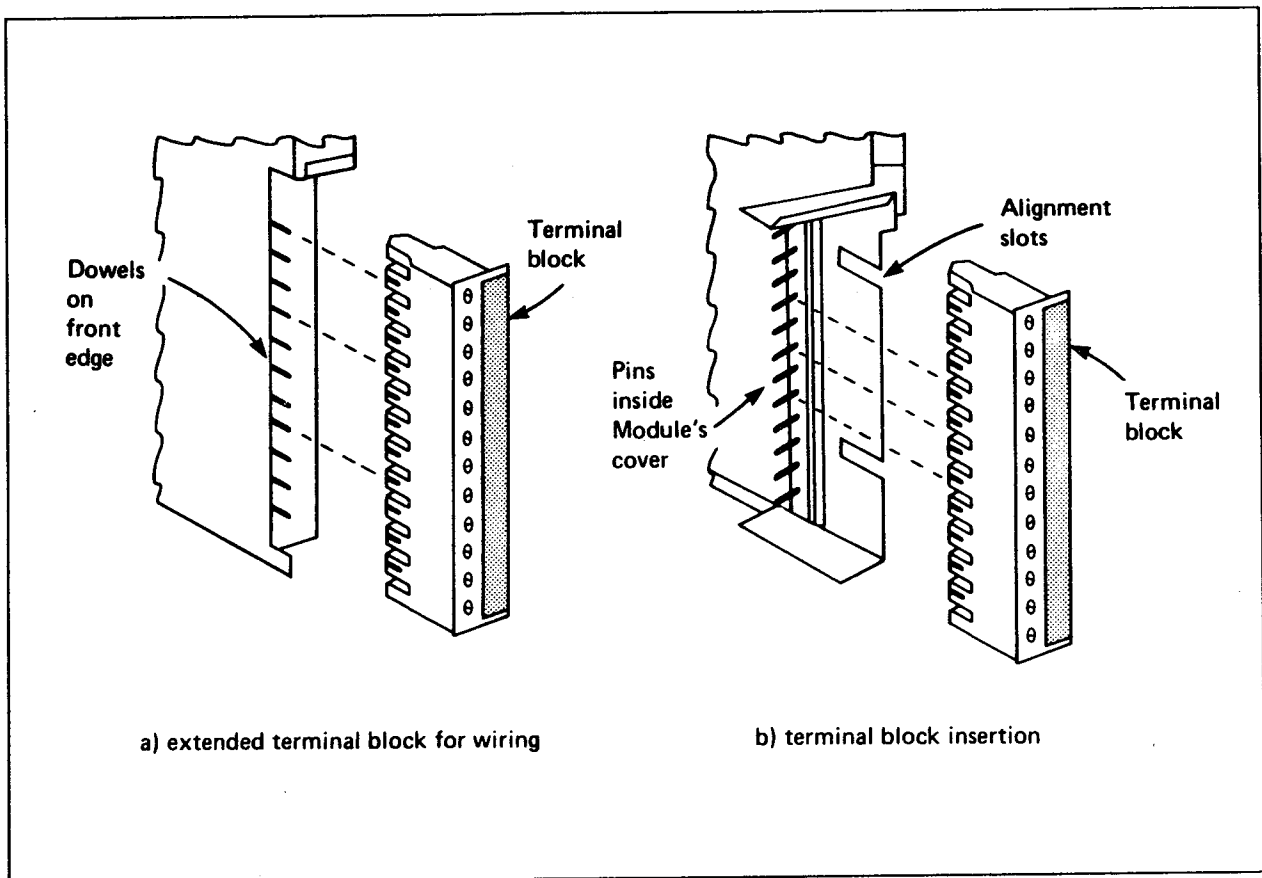

Figure 3-31. 12-Position Terminal Block Extended
1. Remove the terminal block(s) from module. If using the 12-position terminal block, place on extender dowels for easier wiring. (See Figure 3-31.)